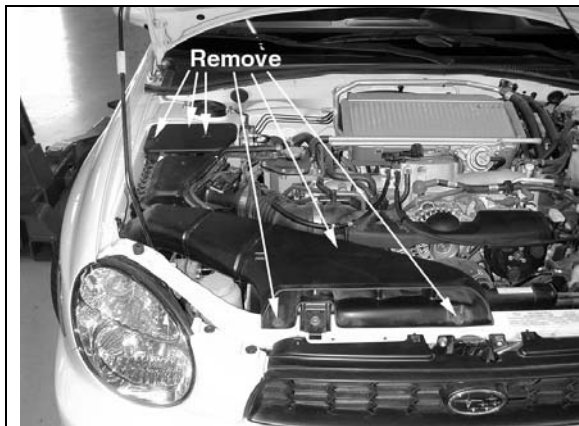

Fig. 1
- b) Remove the two mounting bolts holding the air inlet scoop and remove the scoop from the vehicle. **(Fig. 1)**